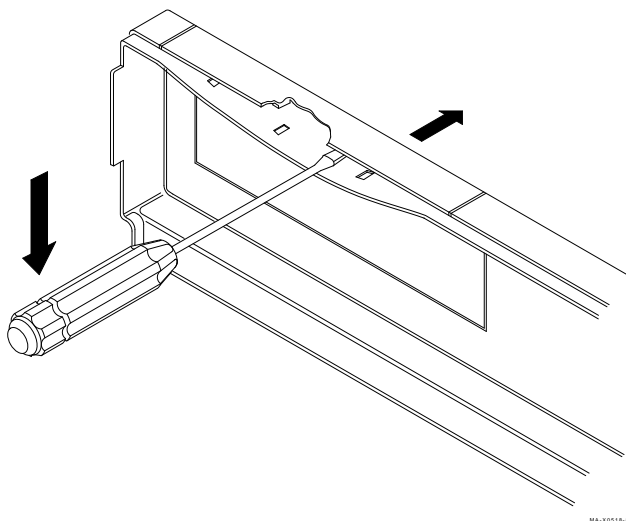

Figure 4-10 Separating the Bezel Insert from the Front Bezel
2. Separate the blank bezel insert from the front bezel (Figure 4-10).